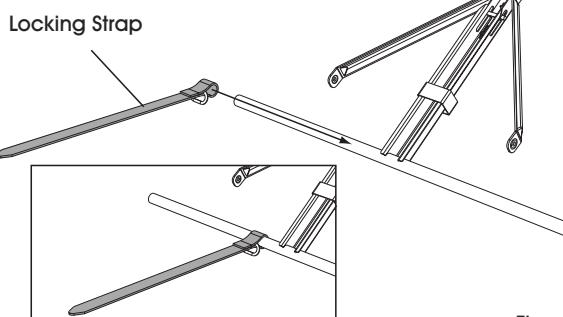

Figure 2
2. If the locking strap is not already attached to the leg brace assembly, slide the locking strap over the tube of the leg brace assembly as shown. Ensure the locking strap is oriented with the metal ring facing downward as shown. (See Figure 2)